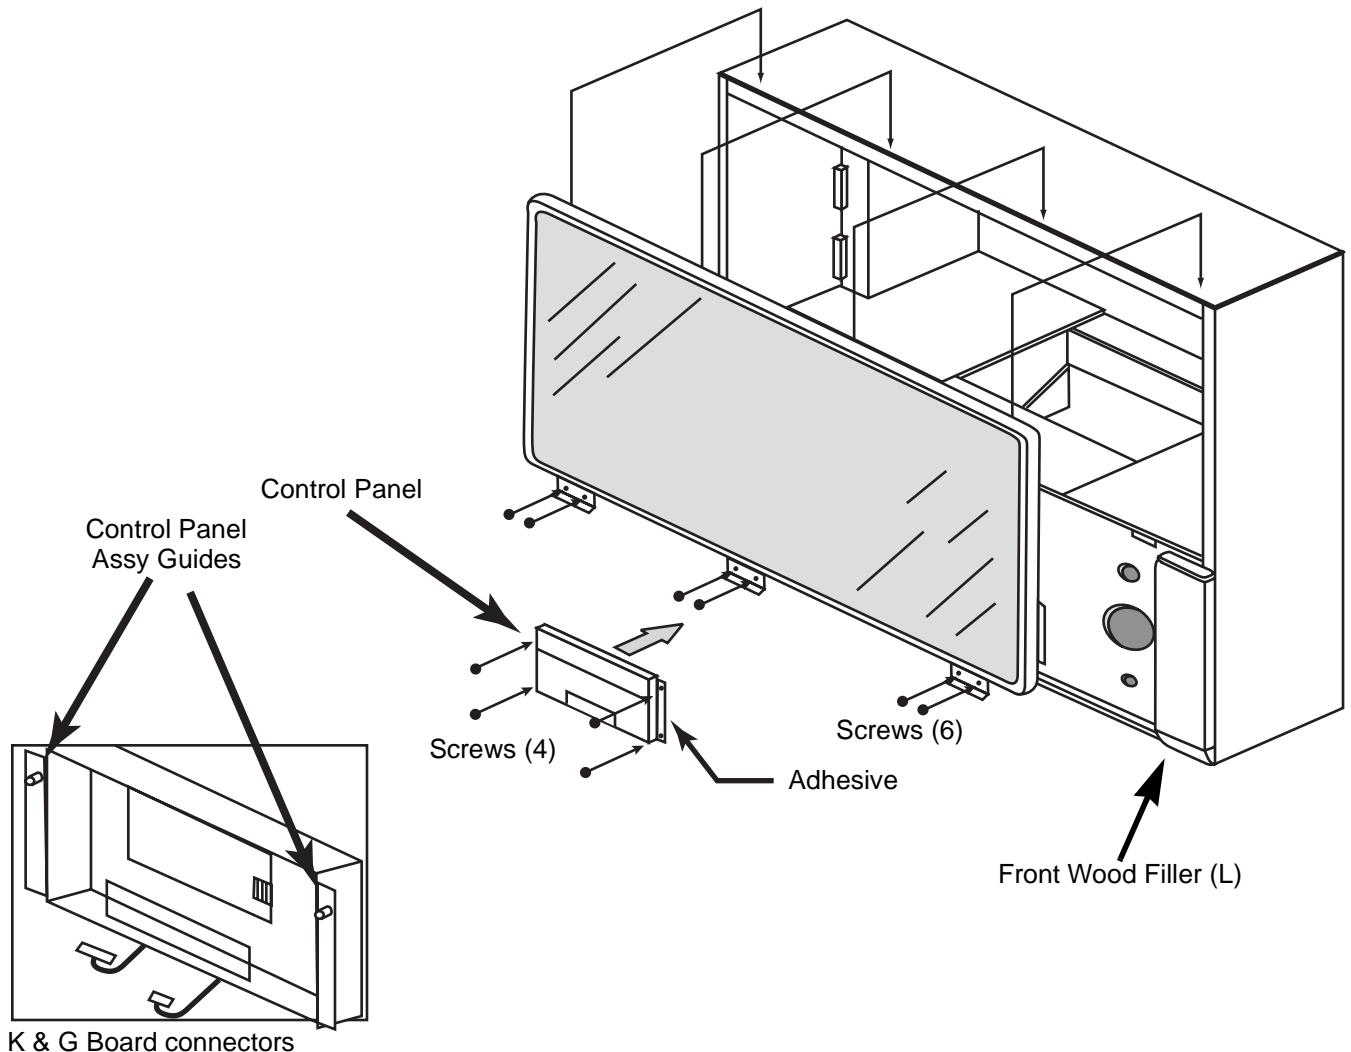

Figure 9. Frame and Customer Controls Panel Installation
1. Hold the screen assembly by its sides. Align the sides of the PTV screen frame with the cabinet. Lift and slightly tilt the screen and place it over the front top edge of the cabinet. Straighten the screen to a vertical position and lower it until it locks into place. Screw the bottom edge of the screen frame to the cabinet with 6 screws as illustrated in Fig .9.
2. Attach the control panel to the cabinet and PTV screen using 4 screws, as illustrated in the Fig. 9.